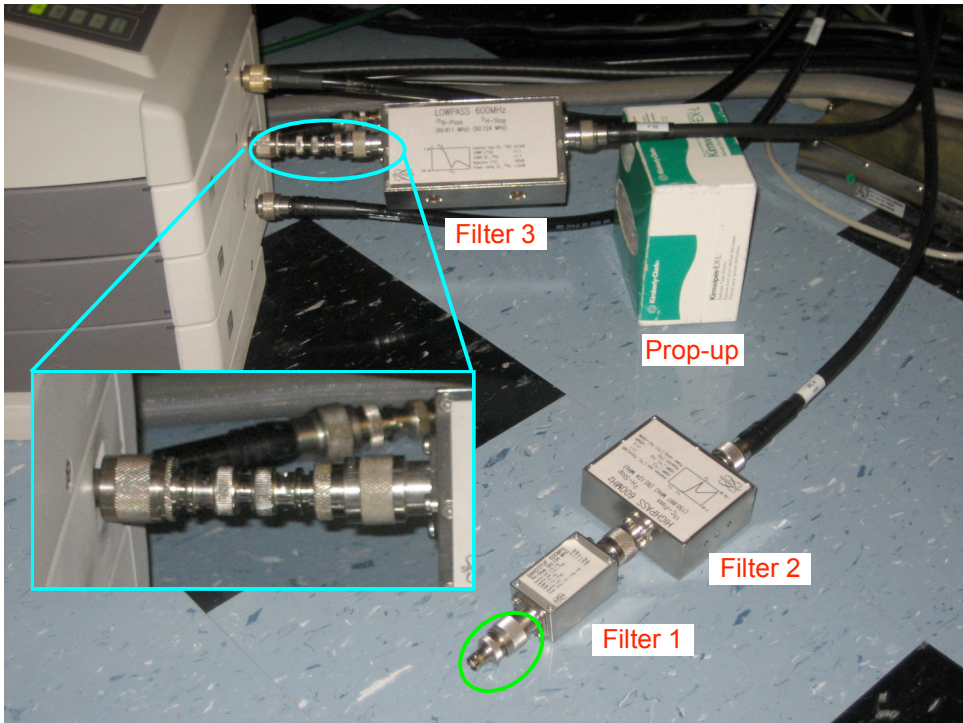

Figure 6: Cable configuration for tuning ^{15}N on 601 spectrometer with only one X-BB slice on HPPR
- Connect ^{15}N channel to the HPPR in place of the ^{13}C channel (see Figure 6).